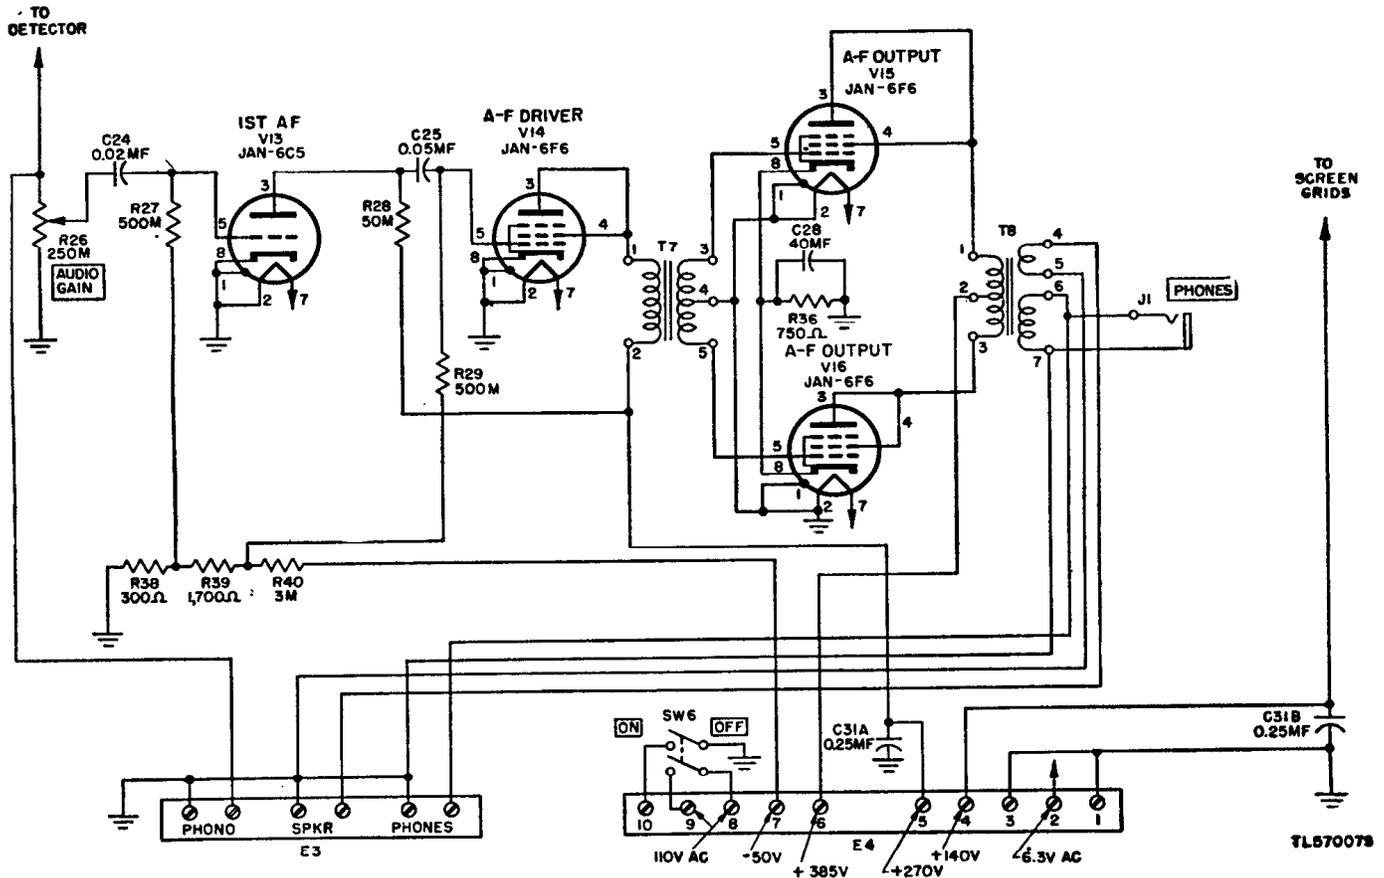

Figure 33. Radio Receiver BC-779-B, functional diagram of a-f amplifier stage.
67. A-F Amplifier (fig. 33)
a. An input transformer, T1, T2, or T3, is connected to the power source by 7-foot line cord W1 and is fused by 2-ampere (amp), 250-v fuse F1. Terminals 8 and 9 of terminal strip E1 are connected to terminals 8 and 9 of receiver terminal strip, E4 (fig. 33) by the connector cable. Closing receiver ON-OFF switch SW6 therefore completes the primary circuit of the transformer. The average power consumed is 180 watts.